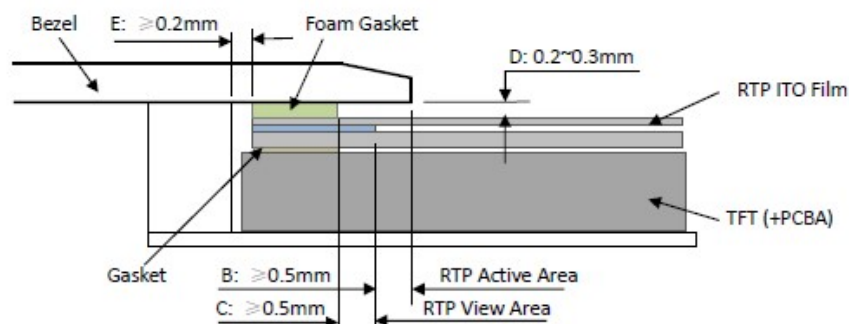

Figure 4
- It should bezel touching the RTP Active Area (A.A.) to prevent abnormal touch. It should left gap $D=0.2\sim0.3\text{mm}$ in between. (Figure 4)
- Outer bezel design should take care about the area outside the A.A. Those areas contain circuit wires which is having different thickness. Touching those areas could de-form the ITO film. As a result bezel the ITO film be damaged and shorten its lifetime. It is suggested to protect those areas with gasket (between the bezel and RTP). The suggested figures are $B\geq 0.50\text{mm}$; $C\geq 0.50\text{mm}$. (Figure 4)
- The bezel side wall should keep space $E=0.2\sim0.3\text{mm}$ from the RTP. (Figure 4)
- 为避免面框直接压在动作区 (A. A.) 上造成误动作，面框与电阻触摸屏 (RTP) 之间应留有一定的空隙 $D=0.2\sim0.3\text{mm}$ 之间。(附图 4)
- 设计面框时，要注意用面框保护触摸屏四周的非保证操作区域，因为布线区域在此处形成一台阶，在此区域附近操作时 ITO Film 变形较大，容易导致 ITO 损坏而降低寿命。为保护 RTP 和避免误操作，在 RTP 与面框之间垫缓冲物 (Gasket)，我们建议设计面框应覆盖动作区的边缘，面框边缘到 V. A. 区的距离 $B\geq 0.50\text{mm}$ ；垫圈内边缘到 V. A. 区的距离 $C\geq 0.50\text{mm}$ 。(附图 4)
- 在设计面框与 RTP 组装时，应考虑到面框内侧与 RTP 外侧的间距 $E\geq 0.2\text{mm}$ 。(附图 4)